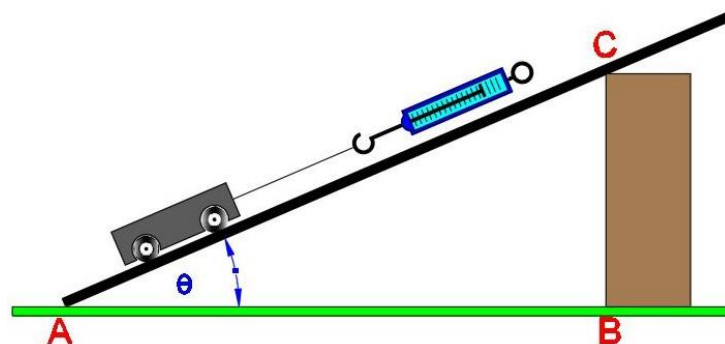

Figure 4
- Place the vehicle on the base of the inclined level with a 15 degrees angle and connect it with a dynamometer parallel to the inclined so that you drag the vehicle upwards with your hand. (Figure 4) You have to lift the vehicle in height of $h=0.40$ m with constant velocity. The vehicle will move S meters on the inclined level. Slowly pull the vehicle so that the indication of the dynamometer will be stable. Repeat the experiment on different angles that appear on board 2 and fill in the gaps.